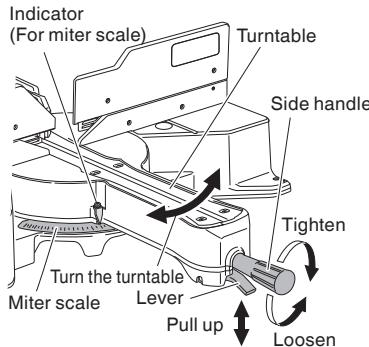
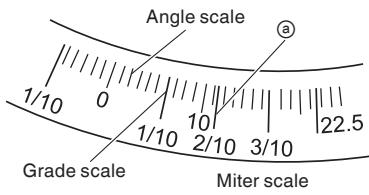

Fig. 31
Fig. 32
(1) Loosen the side handle and pull up the lever for angle stoppers. Then, adjust the turntable until the indicator aligns with desired setting on the miter scale (Fig. 31).
(2) Re-tighten the side handle to secure the turntable in the desired position.
(3) The miter scale (Fig. 32) indicates both the cutting angle on the angle scale and the gradient on the grade scale.
(4) The gradient, which is the ratio of the height to the base of the triangular section to be removed, may be used for setting the miter scale instead of the cutting angle, if desired (see Fig. 32).
(5) Therefore, to cut a workpiece at a grade of 2/10, set the indicator to position ④ as indicated in Fig. 32.